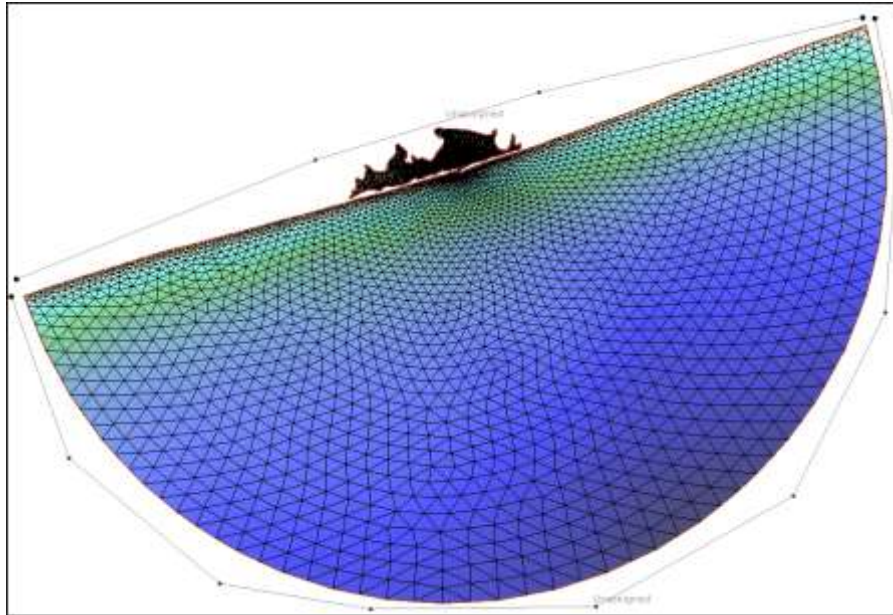

Figure 2 Digitized boundary condition arcs (lines). Labeled “Unassigned”.
5. Using the **Create Feature Arc**  tool, create an arc around the ocean portion with about 6–8 points. (Figure 2)
6. Using the **Create Feature Arc**  tool, an arc along the coastline portion with 3–5 points. (Figure 2)
(The arcs should appear similar to Figure 2)